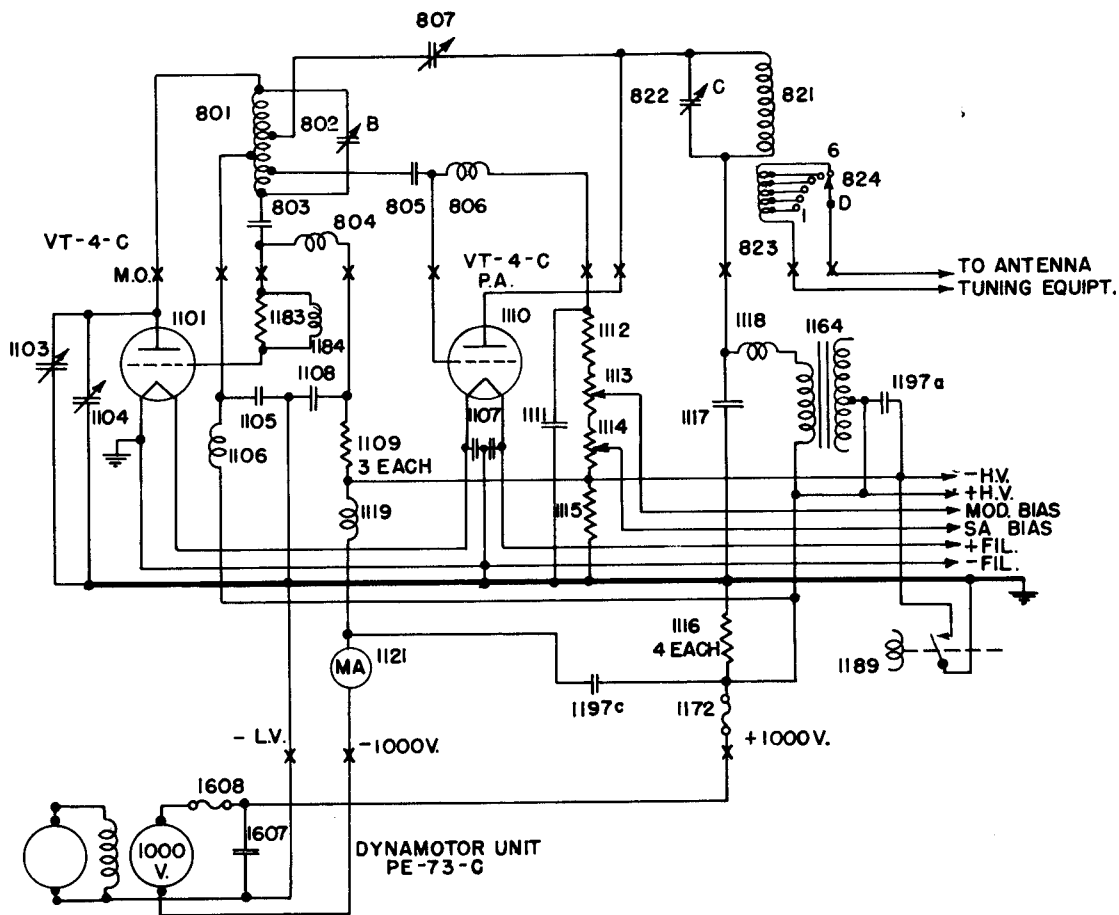

FIGURE 11. RADIO TRANSMITTER BC-375-E, FUNCTIONAL DIAGRAM OF RADIO-FREQUENCY AND HIGH-VOLTAGE CIRCUITS
The radio-frequency circuit of the radio transmitter (see Figure 11) is of the conventional master-oscillator and power-amplifier type. The audio-frequency circuit consists of a speech amplifier and a Class B audio-frequency modulator which applies plate modulation to the Class C radio-frequency power amplifier. When operating on TONE, the speech amplifier is converted into an audio-frequency oscillator which supplies grid excitation at a frequency of approximately 1000 cycles to the modulator tubes.
The master-oscillator circuit is of the "series fed" type, either capacitively or inductively coupled to the power amplifier depending on the tuning unit in use. Assuming that Transmitter Tuning Unit TU-8-B (6200-7700 kc) is in place in the radio transmitter, the radio transmitter circuits will be discussed in detail (see Figure 11).
- a. It keys the radio transmitter by short-circuiting resistor 1115 (refer to Figure 11).